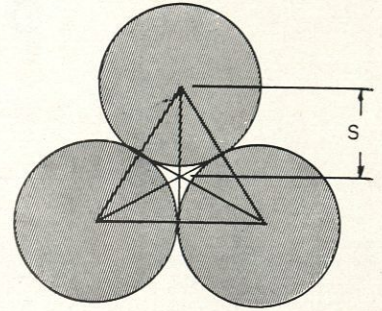

FIGURE 6
5) The key to this problem was knowing that it involved solid geometry. The center of the orange was at the geometric center of the equilateral triangle, shown in figure 5. As the triangle is six inches on a side, the center distance is $s=4.47$. Looking at figure 6, we see that